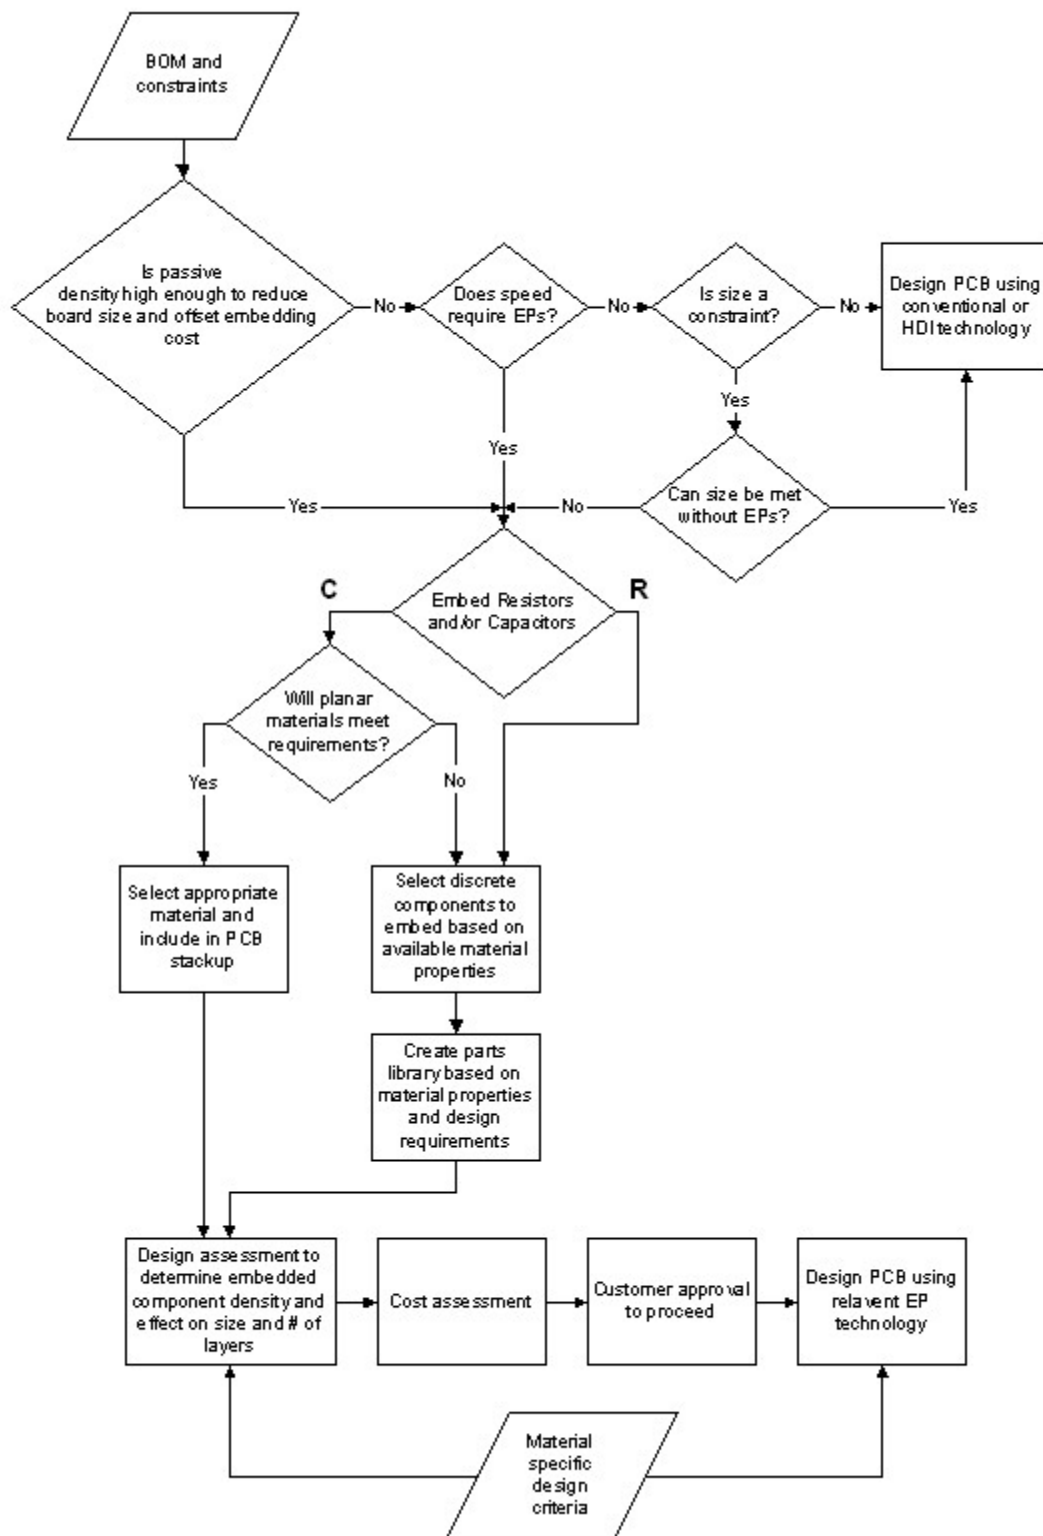

Figure 3 – The Design Decision¹
Figure 3 illustrates the major steps that project management and engineering must go through to decide whether or not, what and how to embed. Generally, selecting technology and parts is decided before the board design is started. Such is the case with embedding passives, however, since the board design process is not yet well established, it is extremely important that your engineer include you, the designer, in this decision process. This is to ensure that you will be able to achieve the desired result. However, for the purpose of this discussion, the materials have been selected by the project engineer. You will assume that he has studied the material characteristics, coordinated with you, and has made a sound choice to meet his project's needs.
1. Figure 3 Courtesy of Herb Snorgren, Coretec Inc.